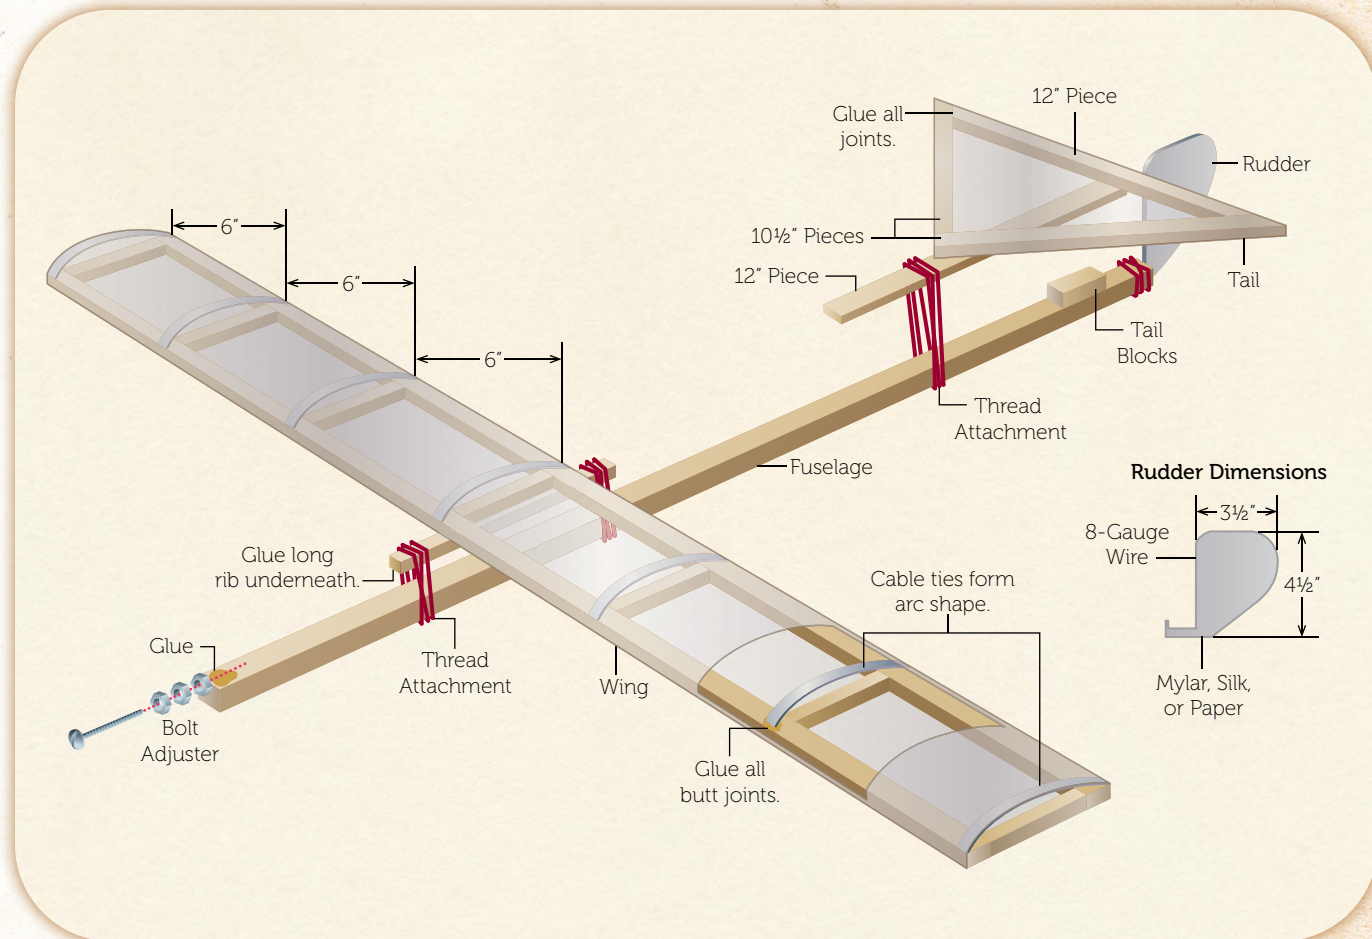

Figure 10.2: The glider assembly
Refer to Figure 10.2, which shows the general layout of Cayley's glider.
Refer back to Figure 10.2 for a visual guide to the next three steps.
5. Once the tail blocks are attached to the fuselage, place three nuts on a $2\frac{1}{2}$ -inch-long #10 bolt and hot glue the tip of the bolt to the front of the fuselage as shown in Figure 10.2.
2. Use thread or ribbon to attach the long middle spars of the wings and tail to the fuselage (again refer to Figures 10.2 and 10.3). To begin, place the middle of the wing about 8 inches back from the front of the fuselage. You will likely need to adjust this distance later, during your test flights.